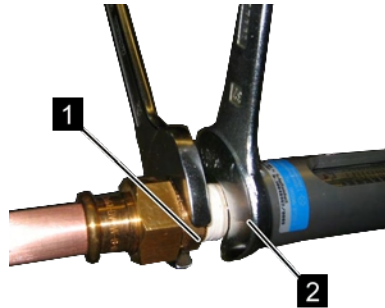

Fig. 12: Screw in the device
3. Keep turning in the adapter union (Fig. 12/1) while holding the process connection of the device locked (Fig. 12/2) until the connection is tight